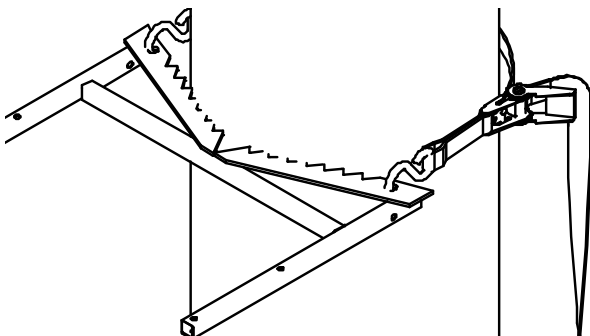

Figure 2
4. Standing on ladder step, lean toward tree with ratchet strap now in hand, hook "S" hook with long strap through hole provided on tree blade. Feed the long strap through the center (slot) of ratcheting mechanism and back around through tightening lever. **SEE FIGURES 2 AND 3.**
Wrap entire ratchet assembly around tree and hook other "S" hook through opposite tree blade hole. Pull tail of long strap until most of the slack is taken out. Be sure entire strap is even and at the same level all around tree. "Ratchet" tight to tree, this will securely attach ladder to tree and prevent movement. **SEE FIGURES 2 AND 4.**